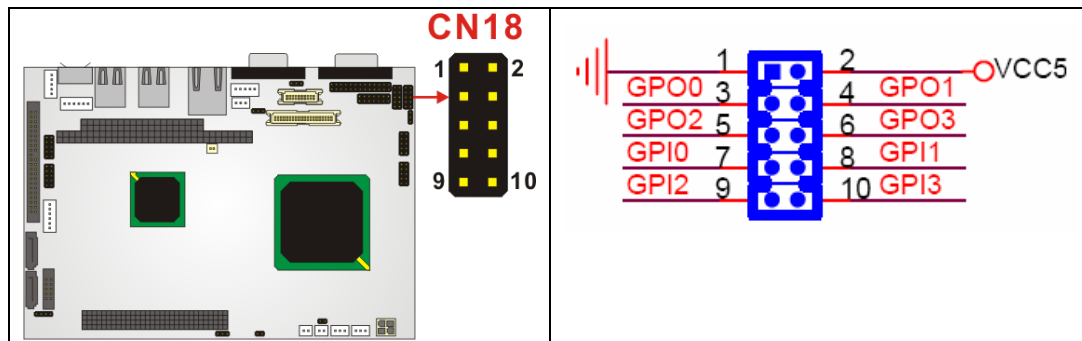

Figure 4-9: CN18 Connector Location
- CN Location:** See **Figure 4-9**